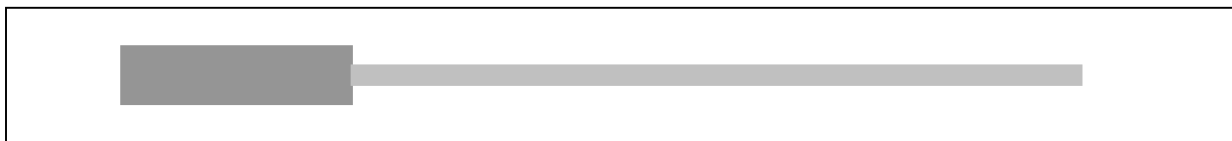

Figure 5, Cable Termination Connector (Lollipop Connector)
- Slip on lollipop connector if used and crimp in place. Cut to length and connect to the line equipment (Figure 5).